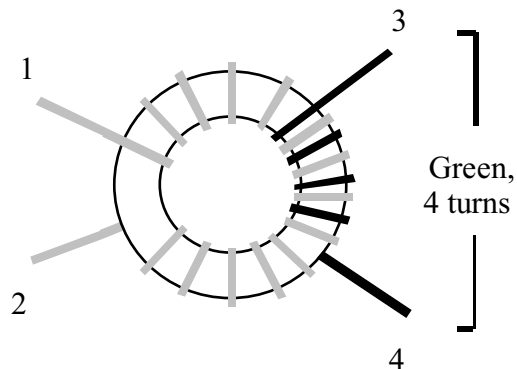

Figure 6-16
□ T5's other winding, 3-4, uses 4 turns of *green* enamel wire (7", 18 cm). Wind the 3-4 winding on top of the 1-2 winding, interleaving the turns as shown in Figure 6-16. The turns should be secure, not loose. Strip and tin the leads of the 3-4 winding.